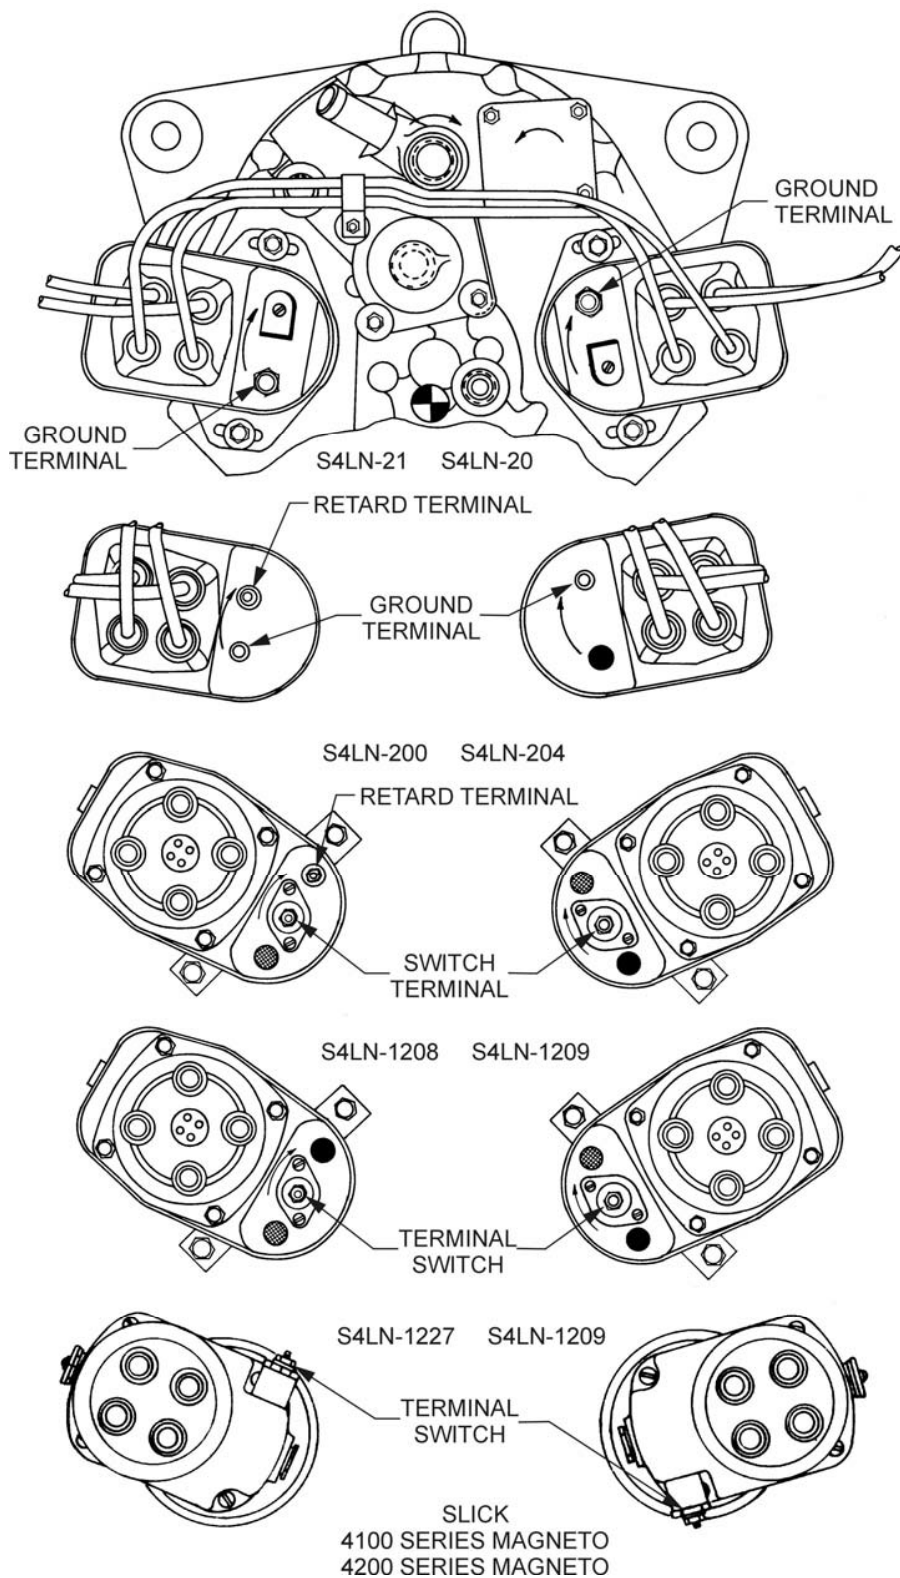

Figure 7-2. Magneto Connections
* SEE FIG. 7-2 FOR MAGNETO CONNECTIONS
*SEE FIG 7-2 FOR MAGNETO CONNECTIONS